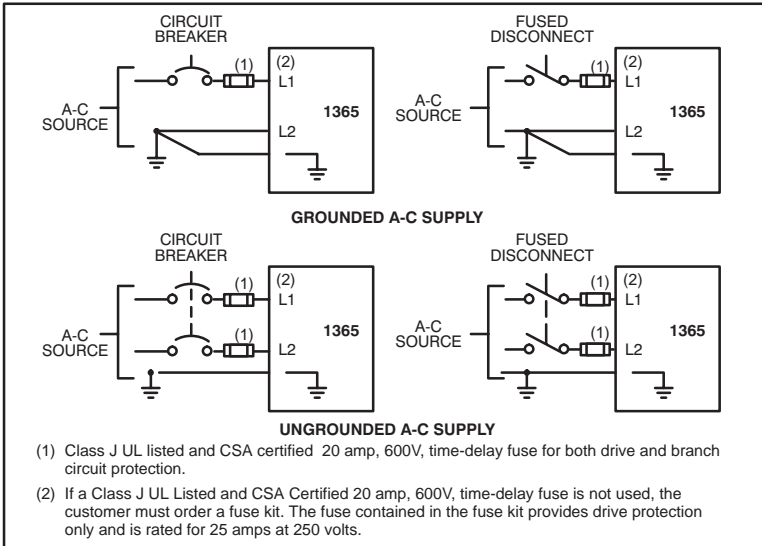

Figure 3-3. Fused Disconnect or Circuit Breaker Connections.
1. Any fused disconnect or circuit breaker in the incoming AC line must accommodate a maximum symmetrical AC fault current of 10,000 amperes. See Figure 3-3.